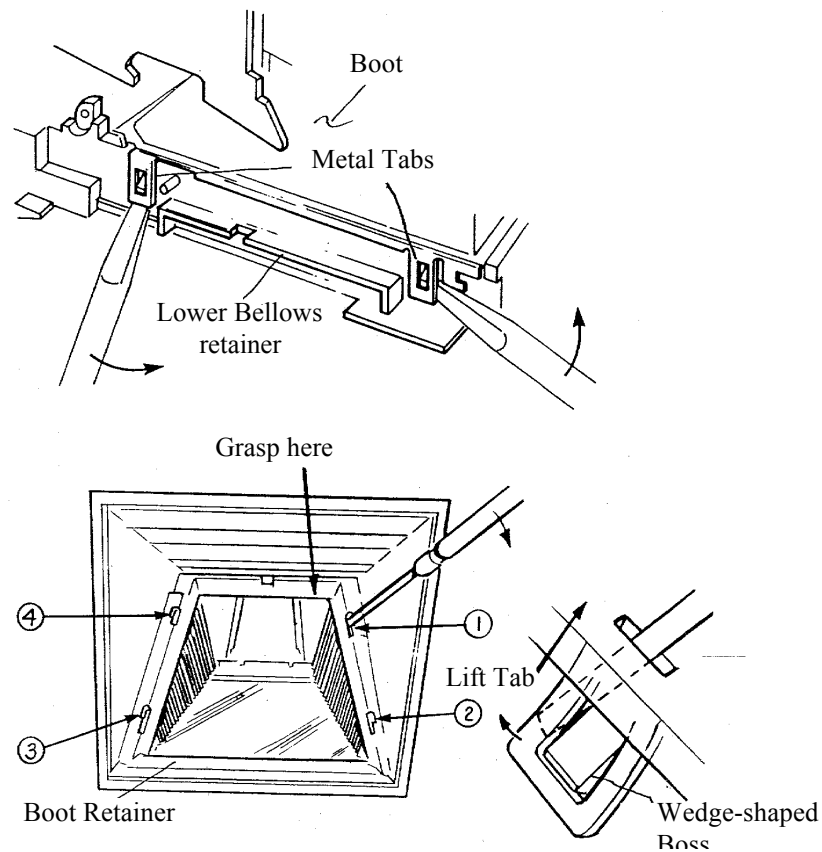

Figure 4-26 Removing Bellows (boot)
- d. Remove Bellows Retainer by inserting narrow blade screwdriver in each of five tab slots. Lift and release each tab on Bellows Retainer from wedge-shaped boss on inside of Cone, by moving blade as shown in enlarged view in Figure 4-26.